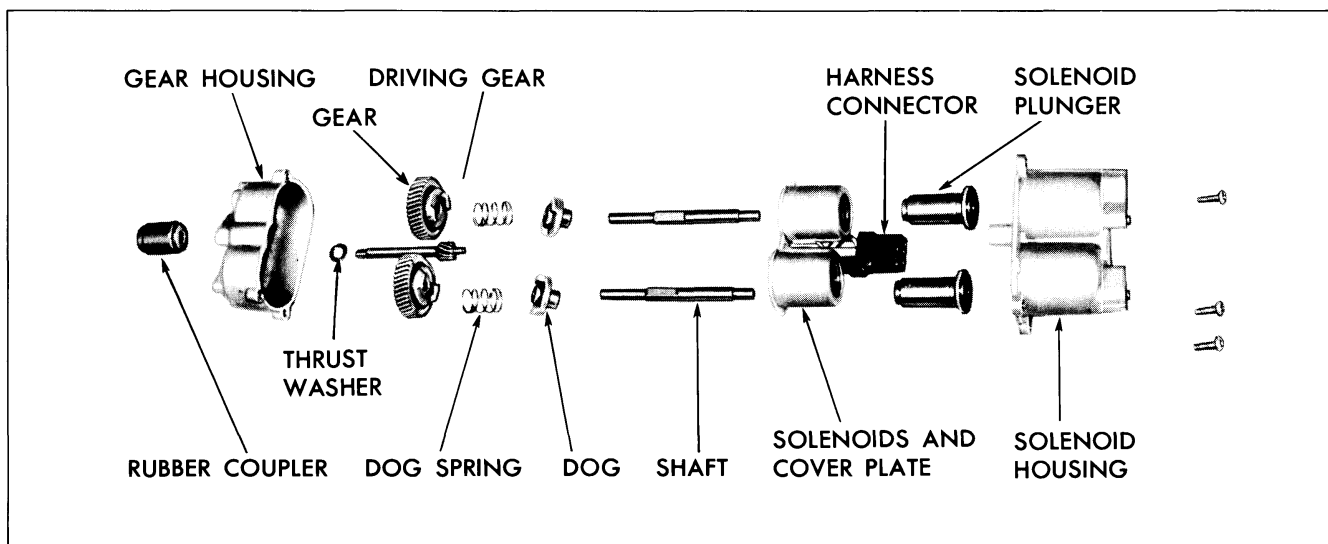

Fig. 17-8 Four-Way Seat Transmission
2. Remove screws securing gear and solenoid housings together; then, carefully separate housings and remove component parts of transmission (Fig. 17-8).